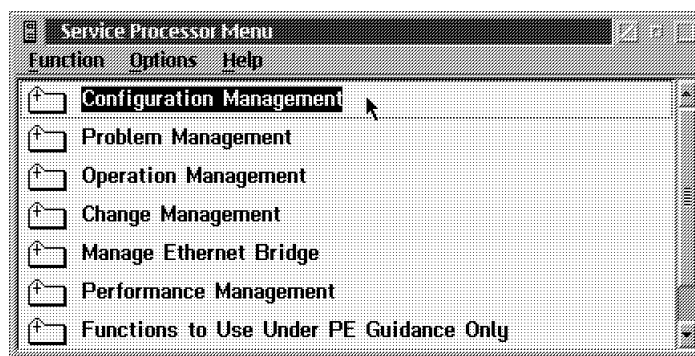

Figure 1-13. Service Processor Maintenance Functions
2. Double-click the **Service Processor** icon. The Service Processor panel is displayed (see Figure 1-13).